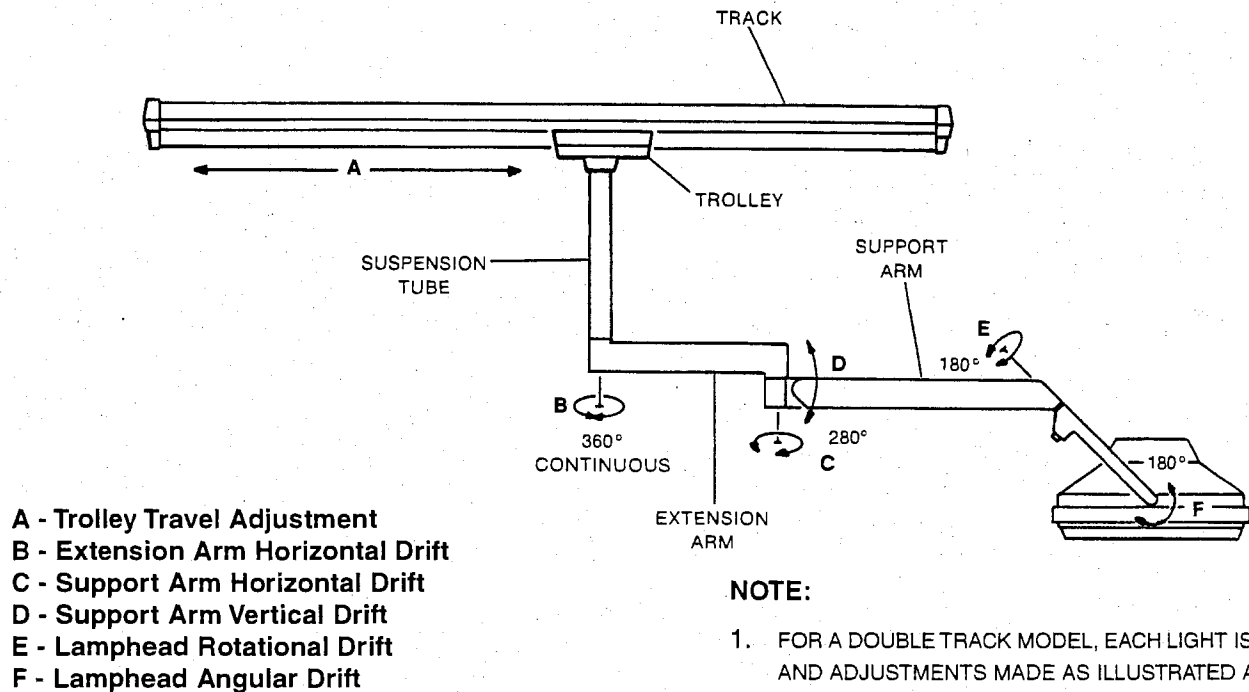

FIGURE 2-5. TRAVEL, ROTATIONAL AND ANGULAR MOVEMENTS
2. Rotate the lighthead about Axis B (Figure 2-5) and check for drift at several locations through 360°. The lighthead should remain at any point in the rotation.